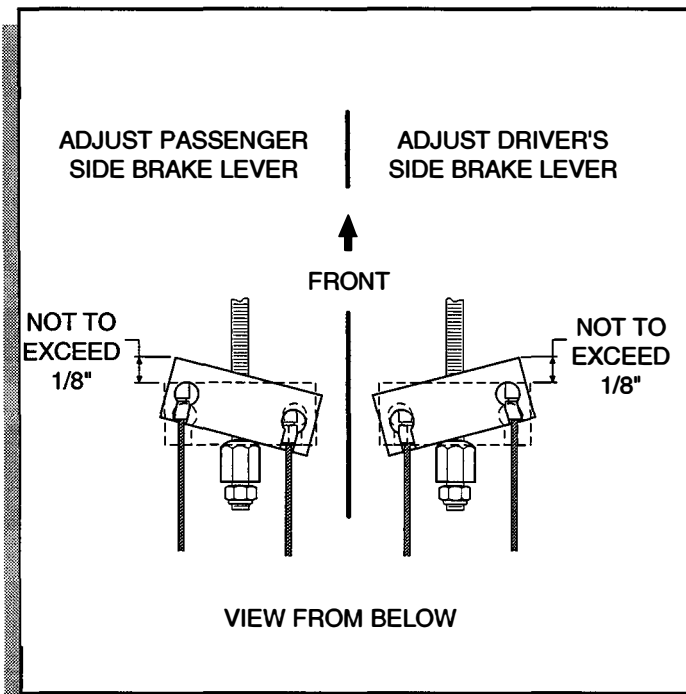

Fig. G-15 Equalizer Position
(See Fig. G-15 "Equalizer Position" on page G-39)
1. (Ref. Fig. G-15) Check the position of the equalizer with the parking brake engaged.